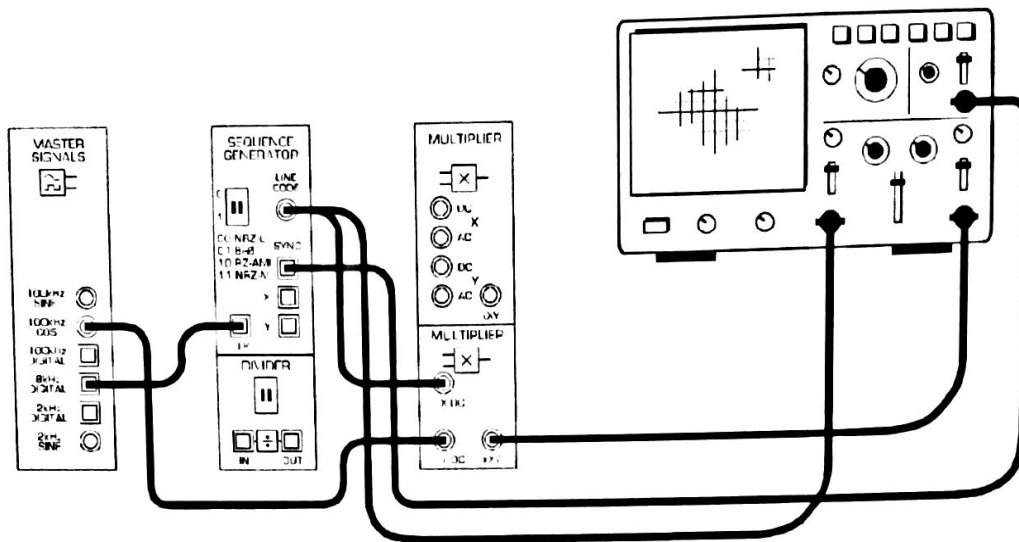

Figure 2
8. Connect the set-up shown in Figure 2 on the next page.